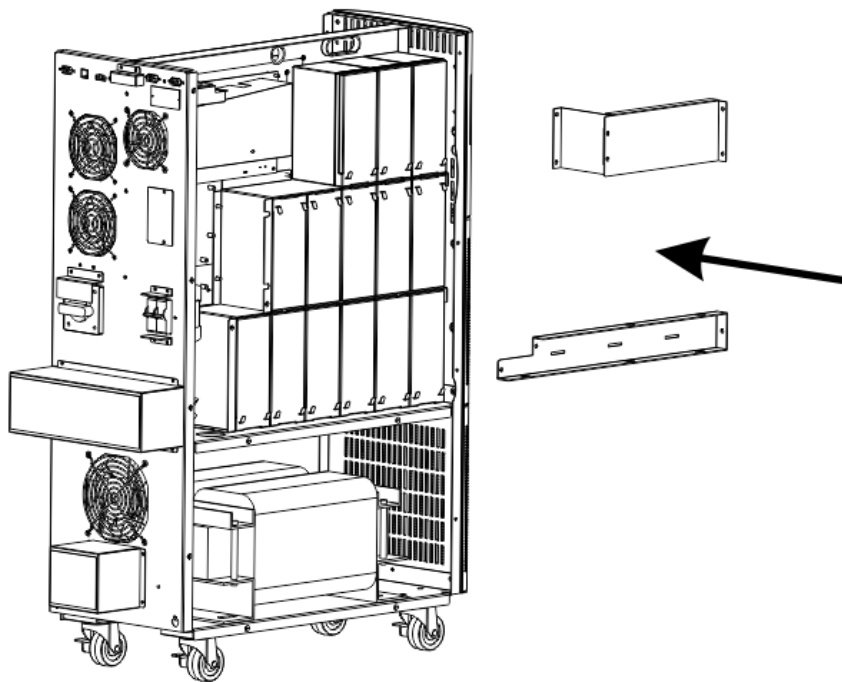

FIG. 12
23. Re-install the battery-retaining brackets with the retaining screws on the right hand side (FIG. 12).